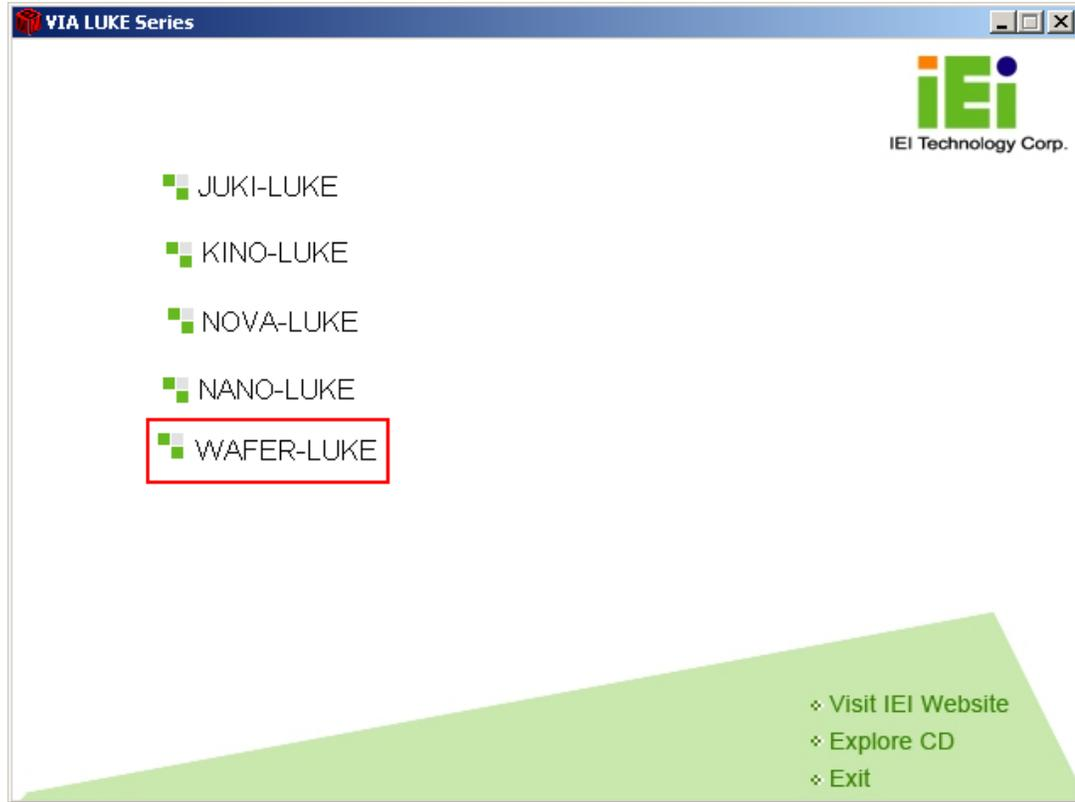

Figure 6-22: Access the WAFER-LUKE Drivers
Step 2: Select "WAFER-LUKE". (See **Figure 6-22**)